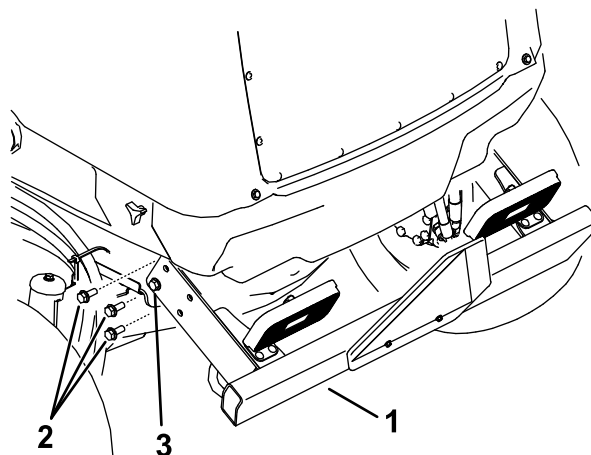

Figure 79
2. Remove the three 3 flange screws from each side of the rear bumper as shown in Figure 79.
6. Raise the rear bumper into position and install the flange screws. Tighten all the flange screws securing the rear bumper to the frame (Figure 79).